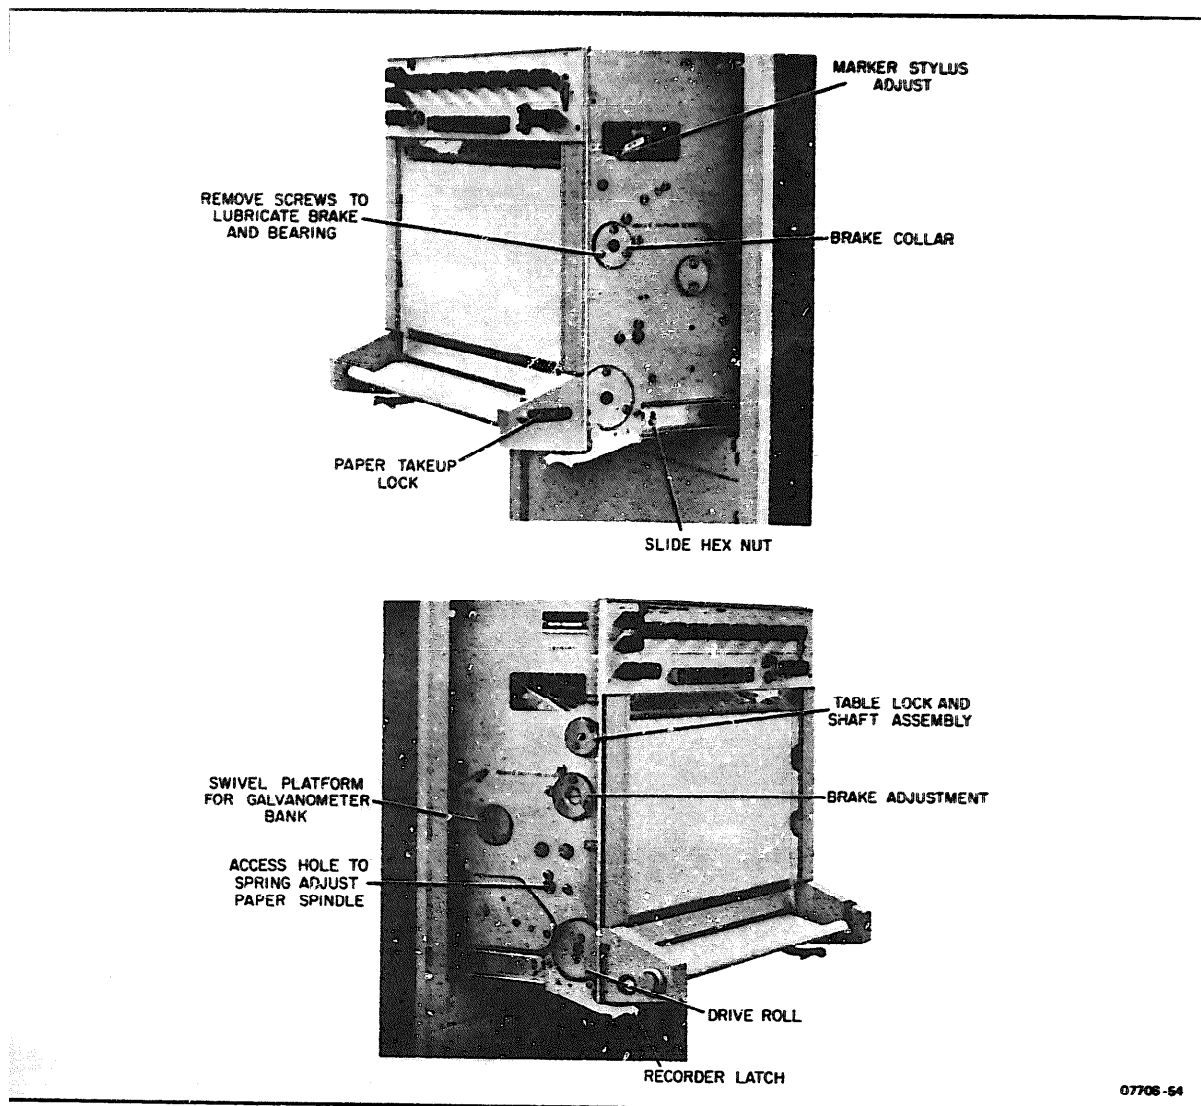

Figure 5-2. Recorder on Slide Assembly
- a. Recorder Slides. Check that the recorder slides in and out smoothly and locks in the normal (closed) position (see Figure 5-2).
the recorder at 25 mm/sec speed; stop recorder when paper has settled on platen. Use a screwdriver and turn the Brake Adjusting screw (Figure 5-2) about five turns counterclockwise. Set the recorder to run and slowly turn the Brake Roll Adjusting screw clockwise while watching the paper as it travels over the platen. Stop adjusting the Brake Roll tension when the paper has settled snugly on the platen clearly showing the platen knife edge.
5-30. CHATTERING. This is usually caused by lack of lubrication on the brake roll cork disc, which causes positive traction instead of the slipping clutch action desired; or a defective brake roll bearing (s). Remove the right brake roll support (three #8 oval head screws) (see Figure 5-2). Clean cork disc with Chlorothene. Allow it to dry. Then lubricate with grease, HP Part No. 6040-0222.
5-34. Play in the paper spindle support from the left spindle support spring can cause paper weave. To increase the spring pressure, simply remove the spindle (and paper from the spindle) and gently push the spring inward from the access hole (see Figures 5-2 and 5-5) on the recorder side plate. Do not extend spring beyond spindle support inner surface. Too much spring action can cause spindle hub wear.